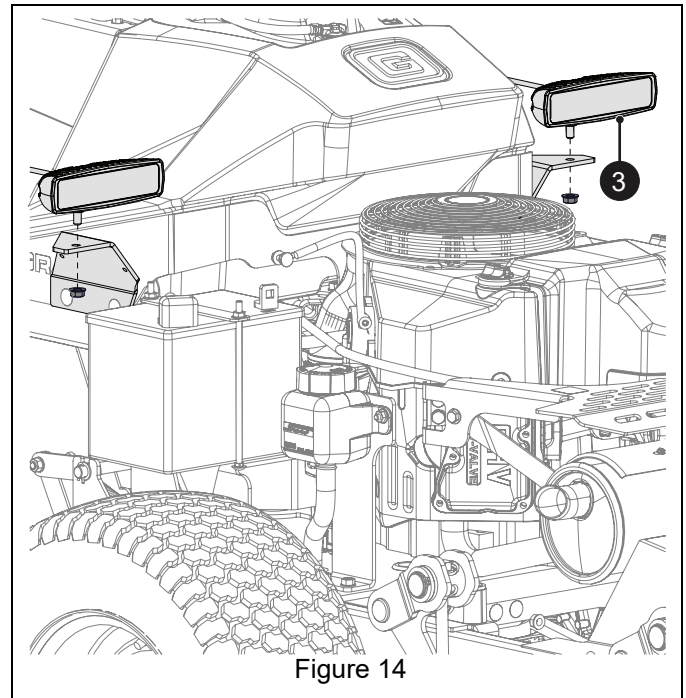

Figure 14
9. Secure left and right headlights to mounting brackets with included hardware. DO NOT fully tighten hardware until headlights are adjusted. See Figure 14.